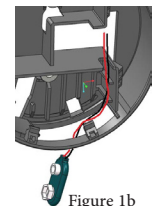

Figure 1b
- (d) Guide the 9V battery cable through the slot in the keypad housing. THE BATTERY CONNECTOR MUST BE ACCESSIBLE FROM THE BATTERY DOOR BEFORE SNAPPING THE KEYPAD TOGETHER, OR THE KEYPAD WILL BE INOPERABLE. Snap the keypad electronic assembly to the housing until evenly seated. (Figures 1b, 1c)